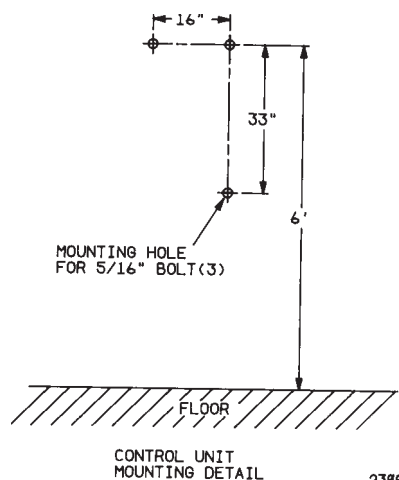

Figure 2.1
- a. Provide mounting holes in the locations and sizes shown on Figure 2.1.